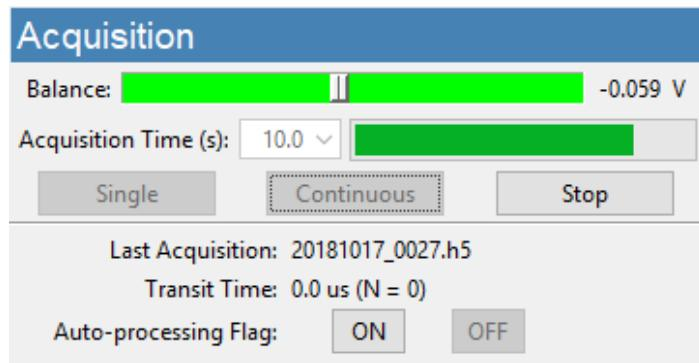

Figure 9. Acquisition frame.
- When the routine is complete, the Acquisition frame (Figure 9) will be activated and **data acquisition will begin automatically.**